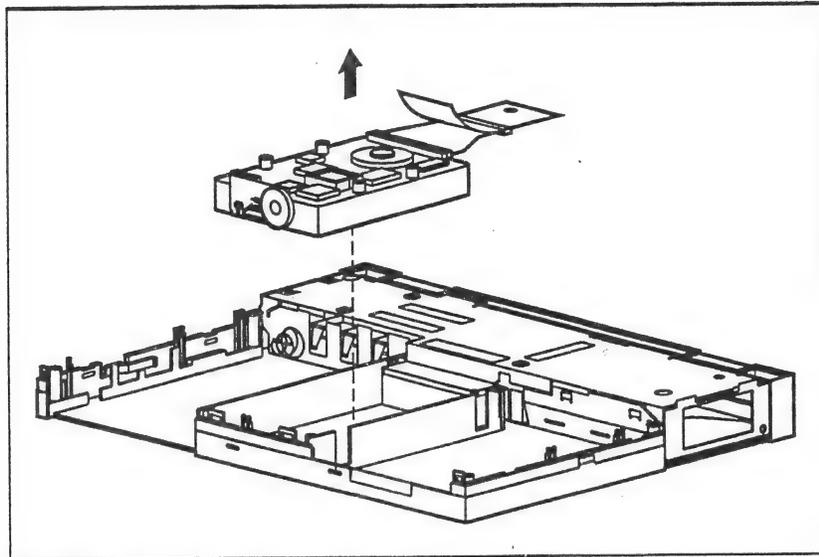

Figure 2-49. Removing the Hard Drive
3. Lift the hard drive and cable out of the CPU base (Figure 2-49).